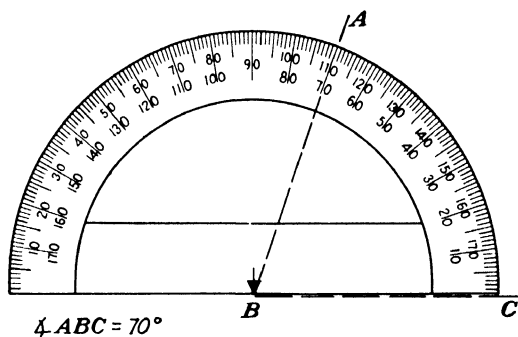

Fig. 101.
- Place the protractor so that the straight edge coincides with the line BC (see Fig. 101).